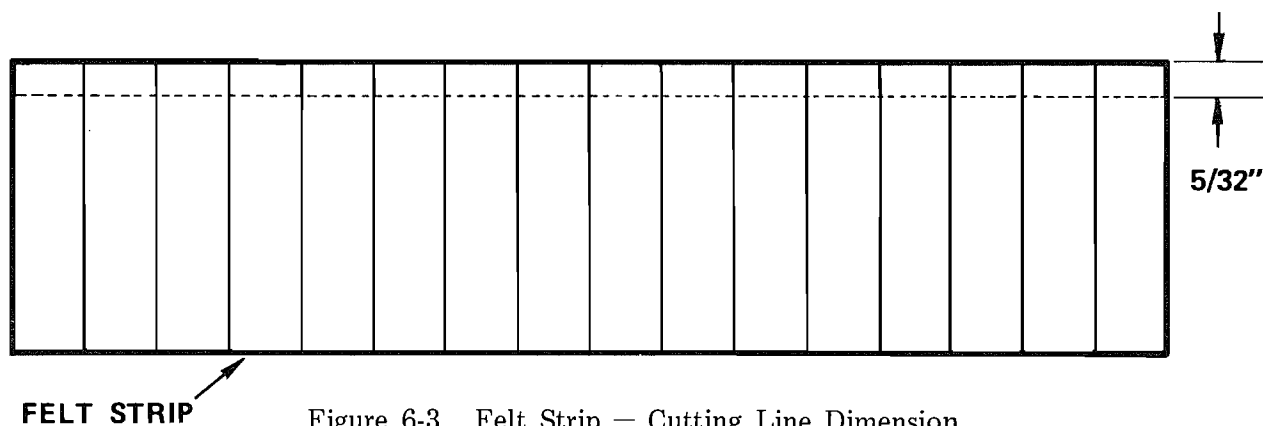

Figure 6-3. Felt Strip — Cutting Line Dimension
9. Measure  $5/32''$  (3.969mm) in from one edge of the Felt Strip (Figure 6-3) and slice along the strip of Felts with a sharp knife ensuring that both pieces retain the protective paper backing. Lay aside the  $1-13/32''$  (35.719mm) Felt Strips.